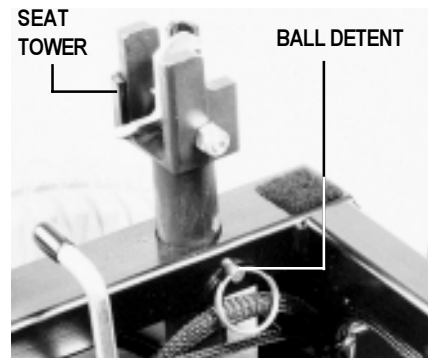

Figure 16. Seat Height
5. Remove the ball detent pin from each of the four seat posts. See figure 16.